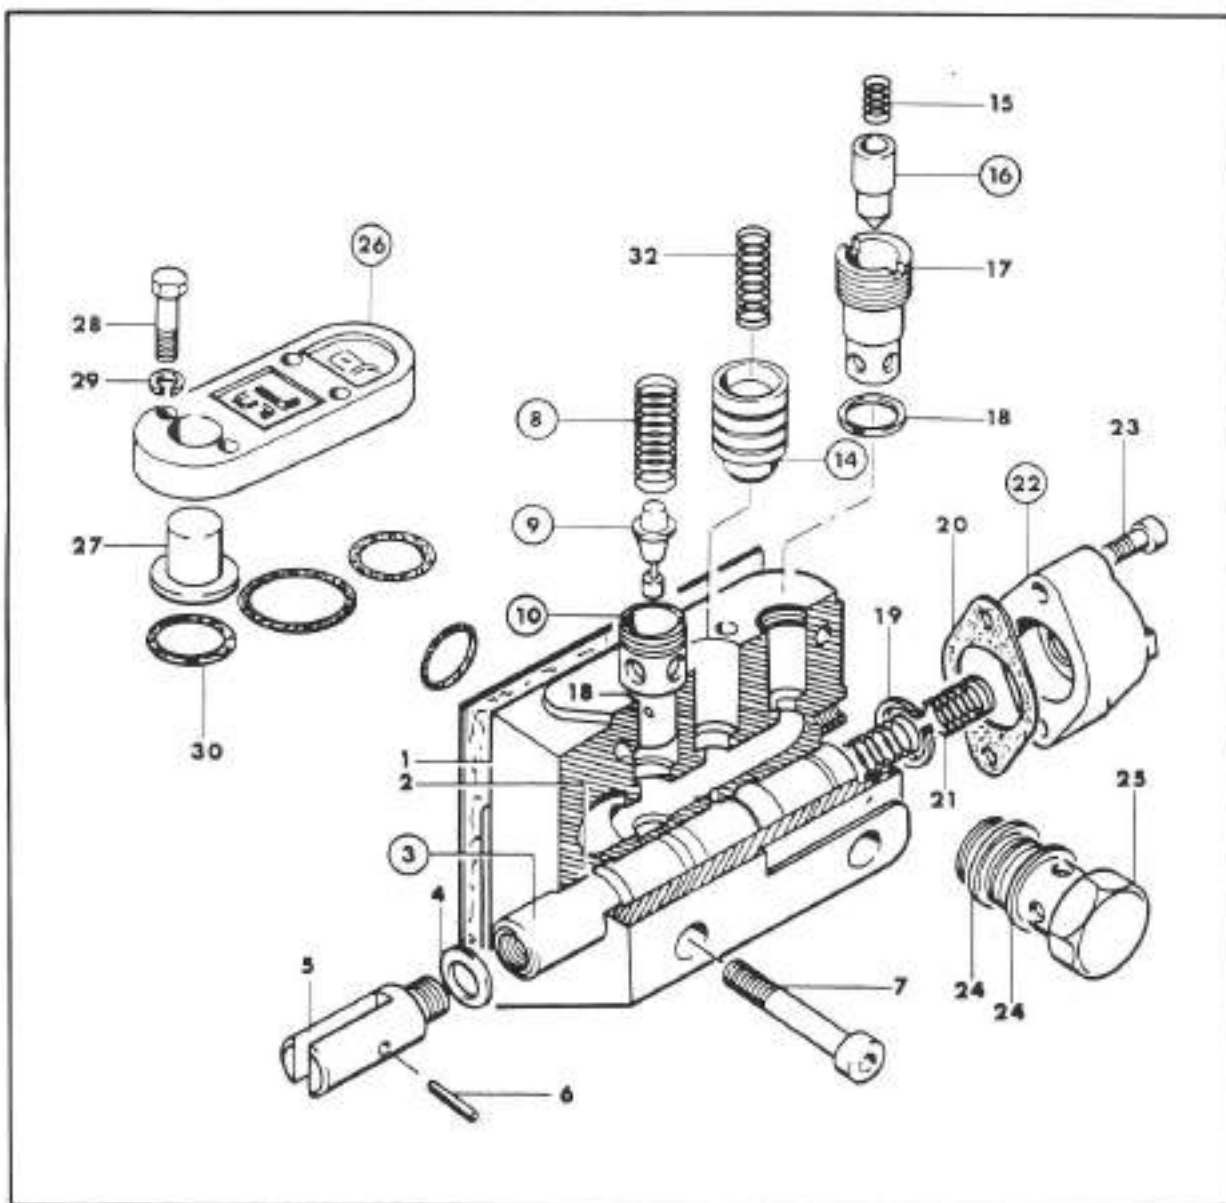

Fig. 3-81. Power - lift distributor - tractor Mod. 75
Refer to figure 3-81.
The lift does not raise even without a load.	1. Lack of oil. Restore the oil level. 2. Jamming pilot valve (14; fig. 3-81) caused by impurities contained in the oil. Unscrew the four screws holding the cover (26) then unblock and clean the valve. To prevent the repetition of this problem, carefully clean the return oil filter cartridge (figure 3-76).